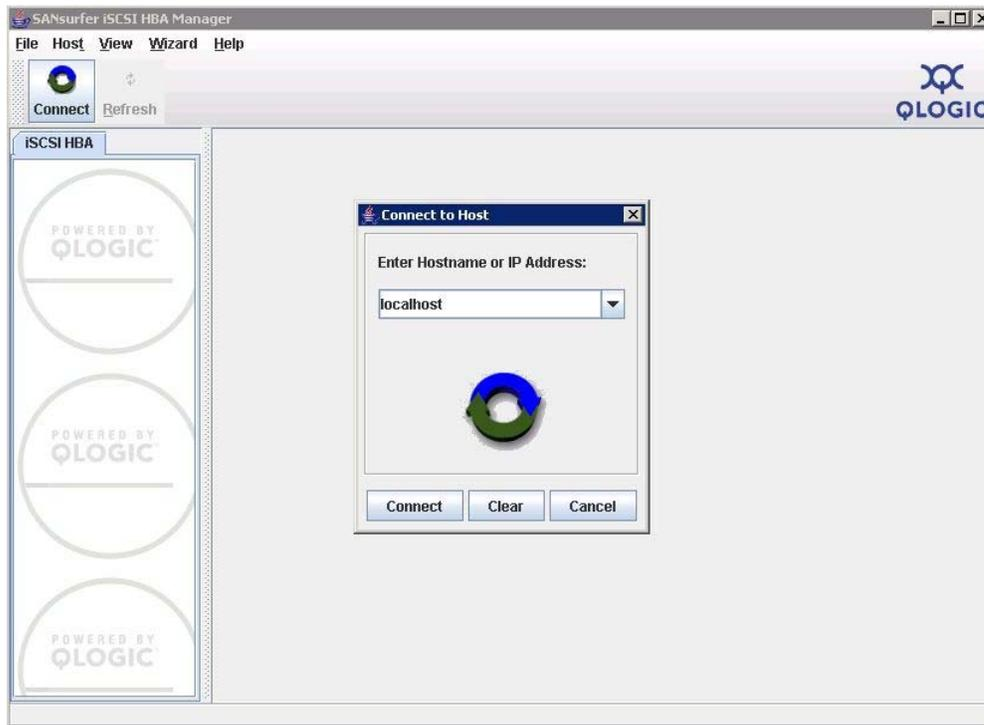

Figure 57 Connect to host screen
1. Start QLogic SMS either from the desktop icon or through Start/Programs and connect to localhost (see Figure 57).